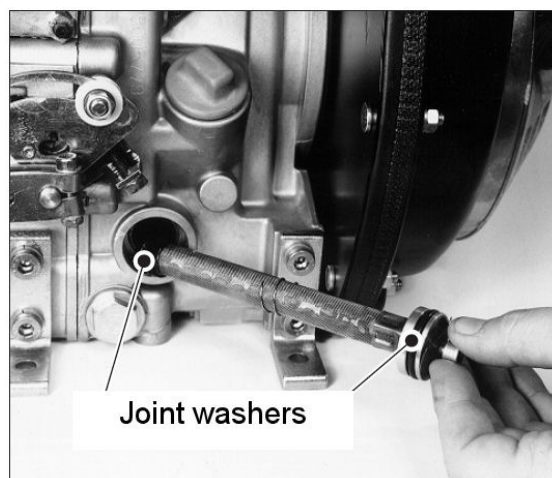

Fig 3-6 Oil filter washers
4. Check joint washers (Fig 3-6). Replace if necessary.